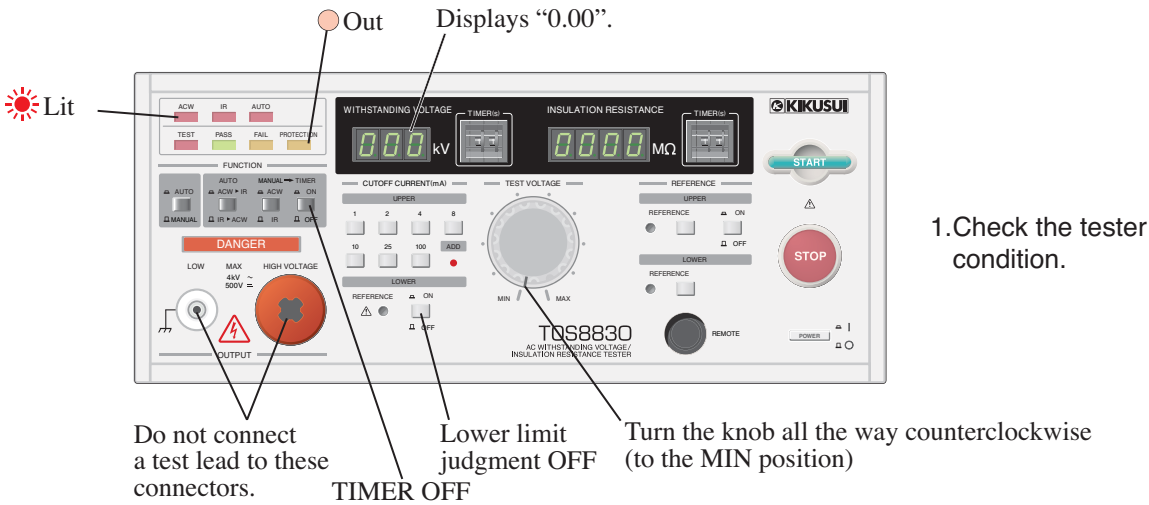

Fig. 5-9 Preparing for Test Voltage Setup
1. Bring the tester to the state shown in Fig. 5-9.